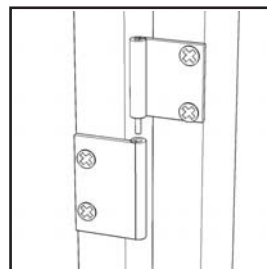

Figure 5
Attach Doors (P) and (Q) to side panel by sliding the door lift hinges into the side panel lift hinges. (See Figure 5)